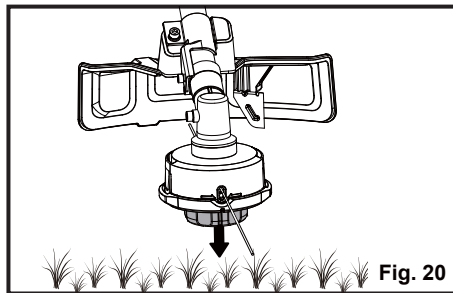

Fig. 20
ADVANCING LINE (See Fig. 20)
- Tap the trimmer head on the ground to advance the line. With each tap, the line advances further. A firm but gentle motion should be used when tapping the line on the ground (Fig. 20). DO NOT keep the trimmer head pressed against the ground.